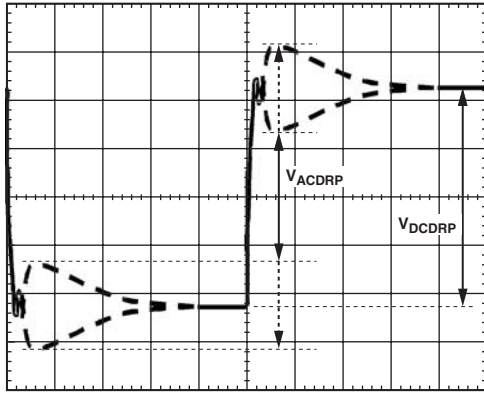

Figure 8. AC Loadline Waveform
15. You will see a waveform that looks something like Figure 8. Use the horizontal cursors to measure V_{ACDRP} and V_{DCDRP} as shown. **DO NOT MEASURE THE UNDERSHOOT OR OVERSHOOT THAT HAPPENS IMMEDIATELY AFTER THE STEP.**